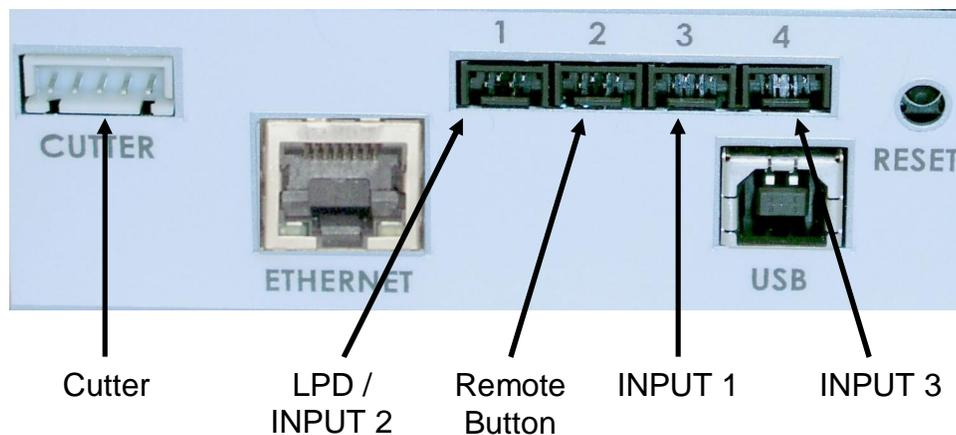

Figure 6 Optional Component Connections
The printer provides a connector on the rear panel for the optional cutter interface. Use this connector when a cutter is installed on the printer. To prevent damage to the printer and/or cutter, connect the cutter when the printer's power is off. Refer to Figure 6 for the location of the cutter interface connector. Refer to the LDSII Programming Guide for additional information regarding the “^D506)” and “^D740)” cutter control commands.
2. Insert the media into the media path (see Figure 6), located on the back of the printer, until you feel resistance.
6. Insert the media into the media path (Figure 6), located on the back of the printer, until you feel resistance.